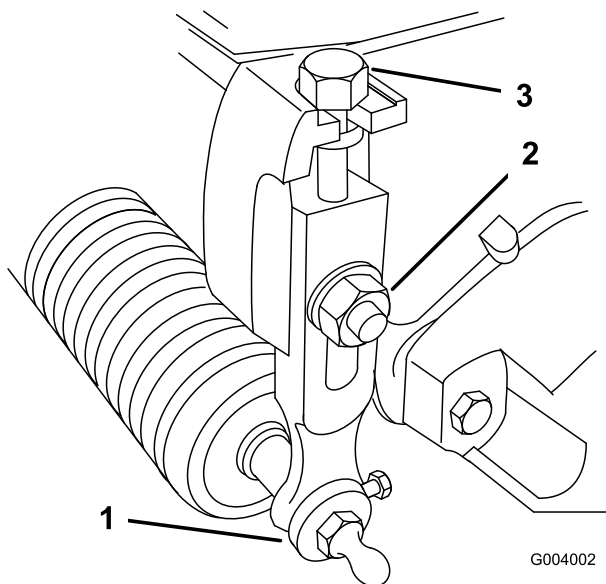

Figure 53
1. Loosen locknuts securing height-of-cut arms to cutting unit side plates (Figure 53).